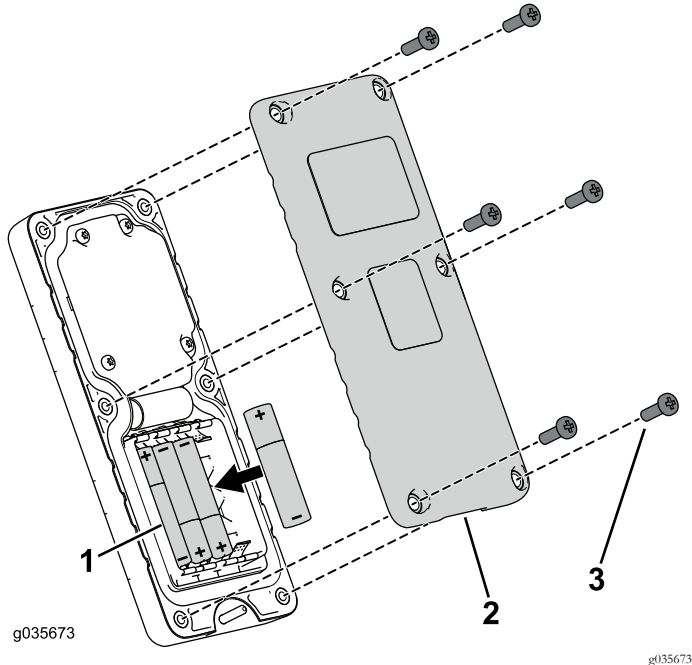

Figure 32
1. Remove the 6 screws from the back of the remote and remove the cover (Figure 32).
5. Install the cover and secure it with the 6 screws removed previously (Figure 32) and torque them to 1.5 to 1.7 N·m (13 to 15 in-lb).